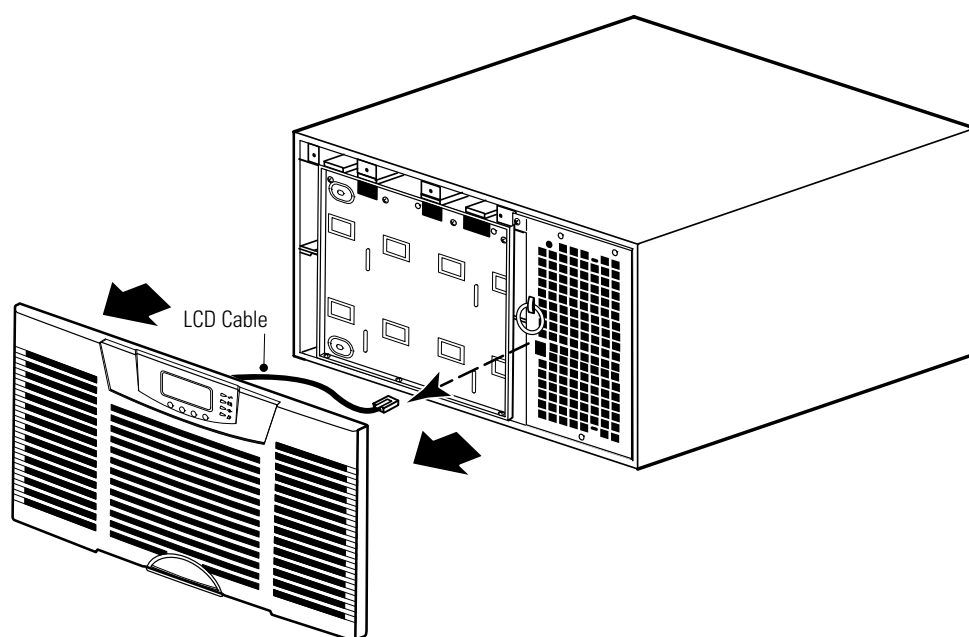

Figure 82. Removing the UPS Front Cover
2. Remove the UPS front cover and set it aside (see Figure 82):